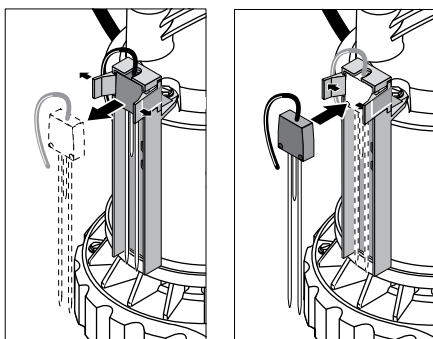

Figure 11: Switch snaps out of bracket as shown. Be careful to not spread the catches too far.
- 3A. Unsnap the switch from the switch bracket and remove it from the pump (see Figure 11).
To remove the switch, spread the tabs on the top of the bracket just far enough to slide the switch out between them. Use the wire to push the switch forward out of the bracket (see Figure 11). If pump is removed from the pit, wipe down the three stainless steel switch rods with a clean cloth.
To replace the switch, push it back between the bracket tabs until it is flat against the back of the bracket (see Figure 11).